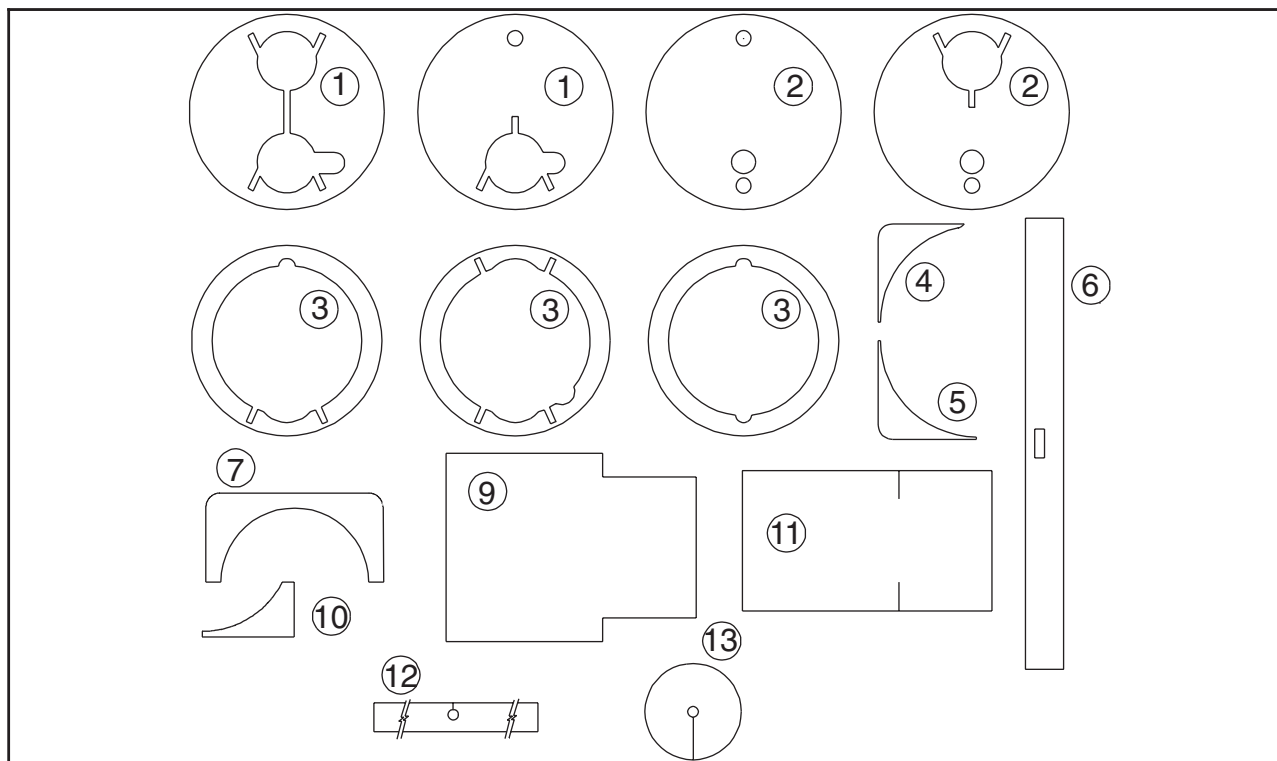
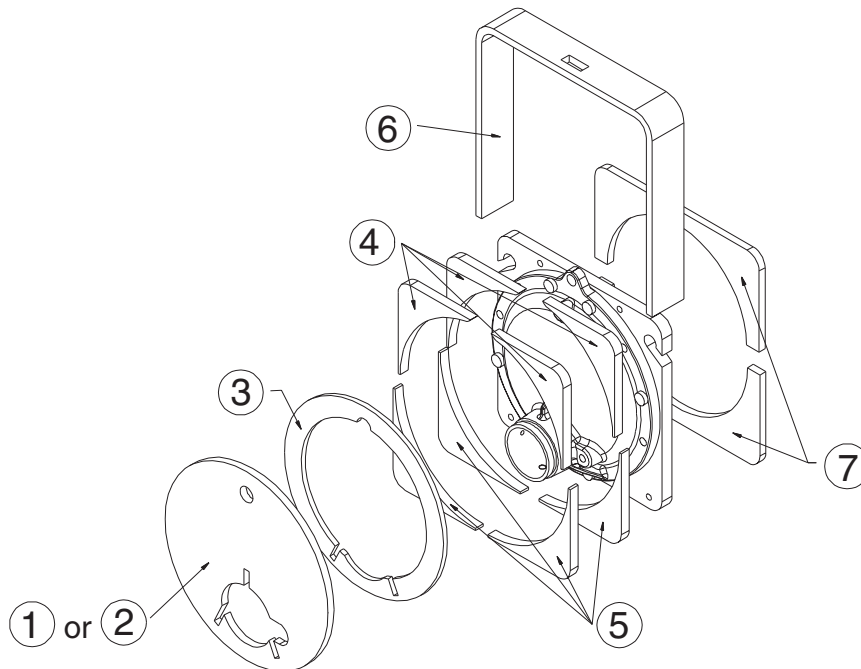
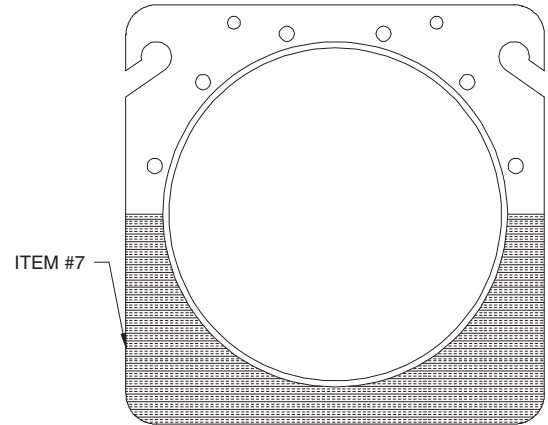

Fig. 1 — Accessory Package Contents For Tables 2-5
Fig. 2 — Head and End Tubesheet Insulation for Tables 2-5
Fig. 5 — Inside Tubesheet (Half-Insulated)
Examine each item. If any part is damaged or missing, file a claim immediately with the shipper. See Fig. 1 for details for a graphical representation of the accessory insulation parts and the corresponding Tables 2-5 that delineate each part's name and number, and the corresponding package number each part is located in.
Item numbers discussed in the following installation steps correlate to Fig. 1 and Tables 2-5. Figure 2 shows an exploded view of the insulation assembly.
1. Apply two pieces of Item 7 (See Fig. 2) to the inside face of one of the end tubesheets. See Fig. 5 and 6.
1. Apply spacer ring (Item 3) to the face of the head as shown in Fig. 2. To allow service access, do not apply adhesive to head bolts. The ring will fit inside the upper and lower insulation pieces applied in Step 1.
1. Apply two pieces of Item 7 to the inside face of one of the end tubesheets. See Fig. 5 and 6.